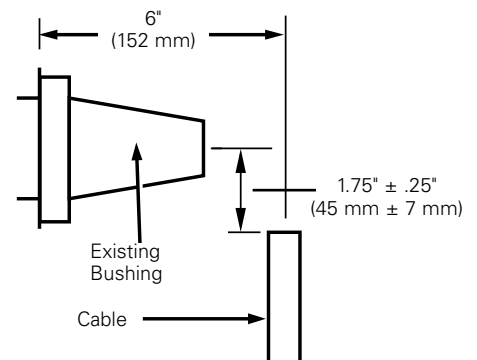

Figure 14. Line illustration for cable training.
- Cut cable 1.75" (45 mm) from centerline of bushing. Refer to Figure 14.